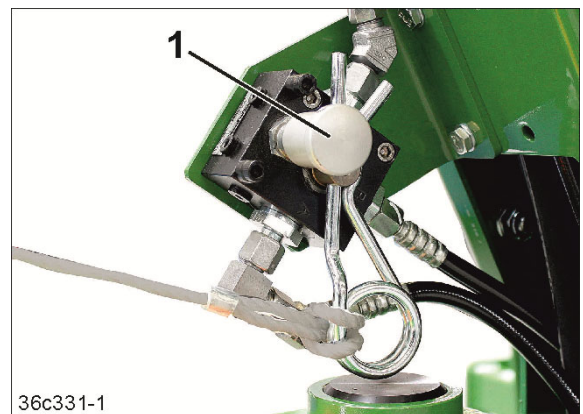

Fig. 130
- 3.1 Actuate the valve (Fig. 130/1). This empties the hydraulic accumulator.